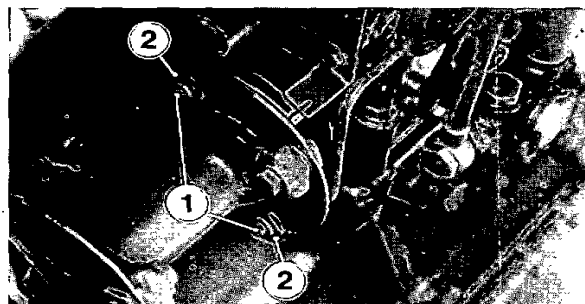

Fig. 136. Pump coupling (protector plate removed)
17. **70 series:** Loosen the bolts (1, fig. 136) in the pump coupling. **NOTE!** The nuts (2) must be kept steady in order not to damage the steel discs.
18. **70 series:** Turn the injection pump flange until the dial indicator shows the correct value and tighten the bolts (1).